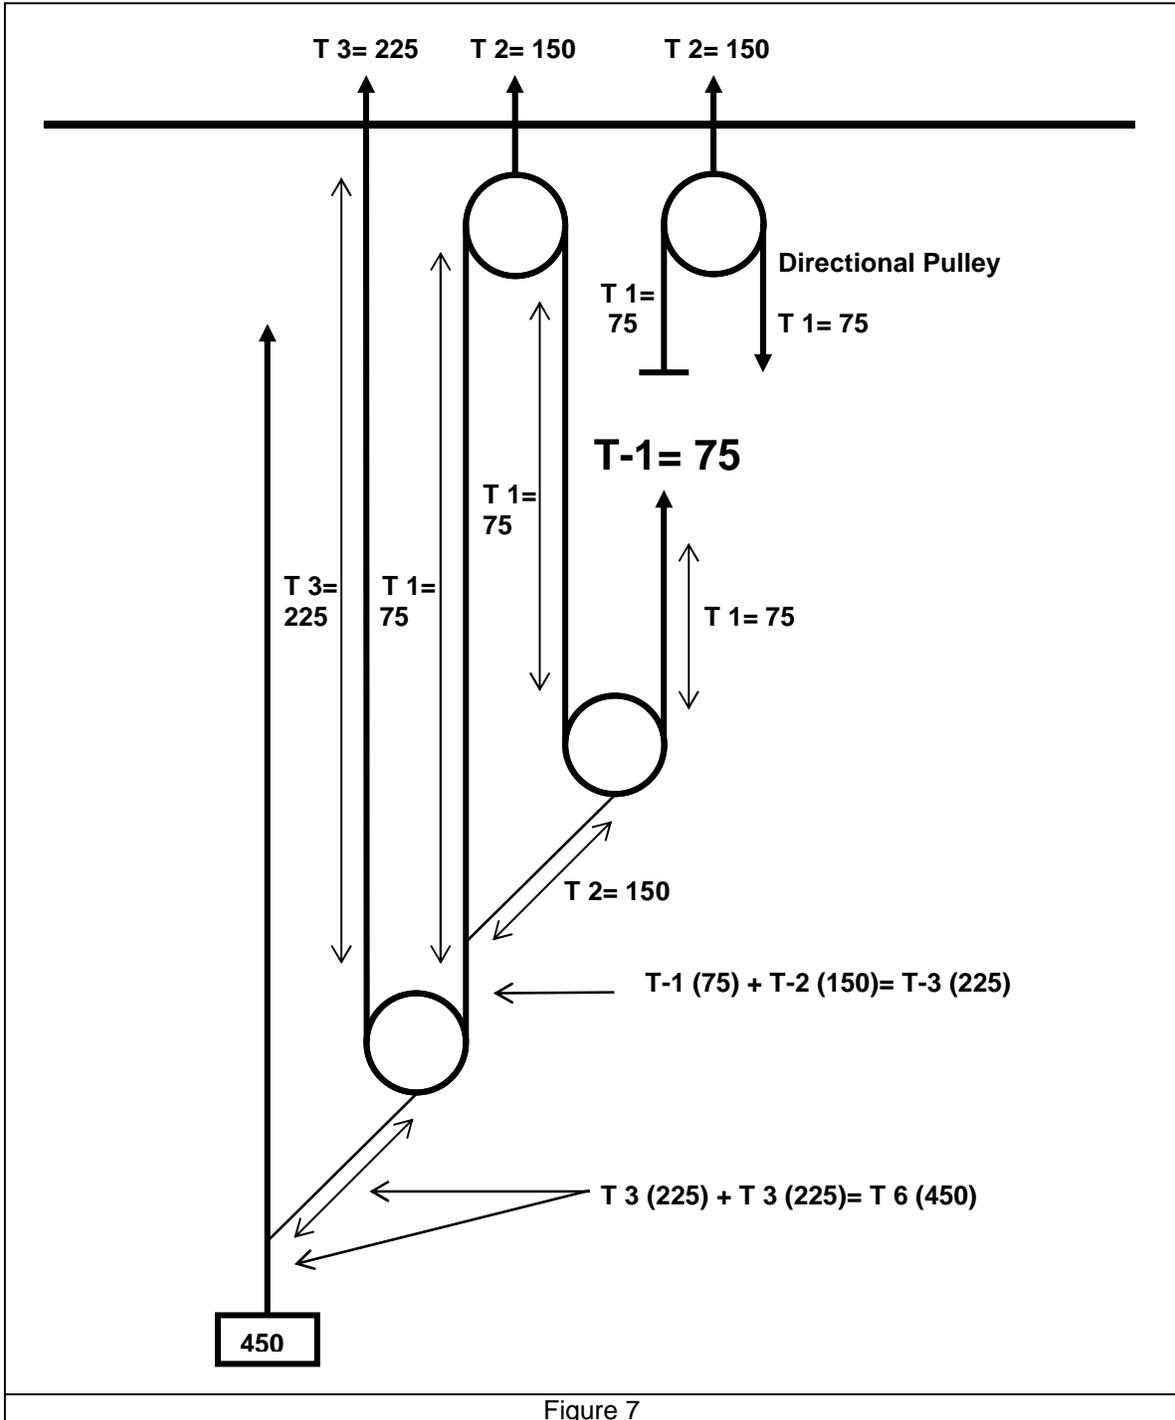

Figure 7
- Figure 7 shows a 3:1 system, piggy-backed on a discreet 2:1 to produce a 6:1 system; all of which is attached to a separate, main haul-line, by means of a 3-wrap Prusik,
- **Notice that the force applied to the rescue load is T-5 (450 lb.), while the force applied to the anchor system is T-6 (540)!**
- If we do so, this becomes nothing more than a 3:1 on a 2:1= 6:1 *compound* system, requiring the same gear, plus an anchor (See: Figure 7)